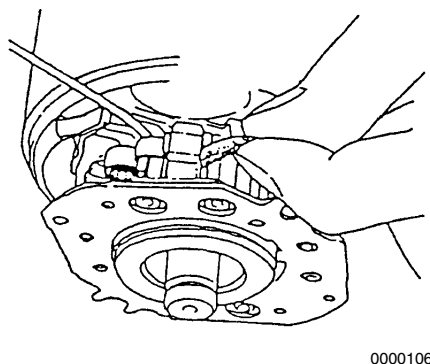

Figure 11-31
8. Position the brush springs in brush holders **(Figure 11-31)**. Reinstall the brushes in the brush holders. Reversing the brushes will cause the starter motor to turn backwards.